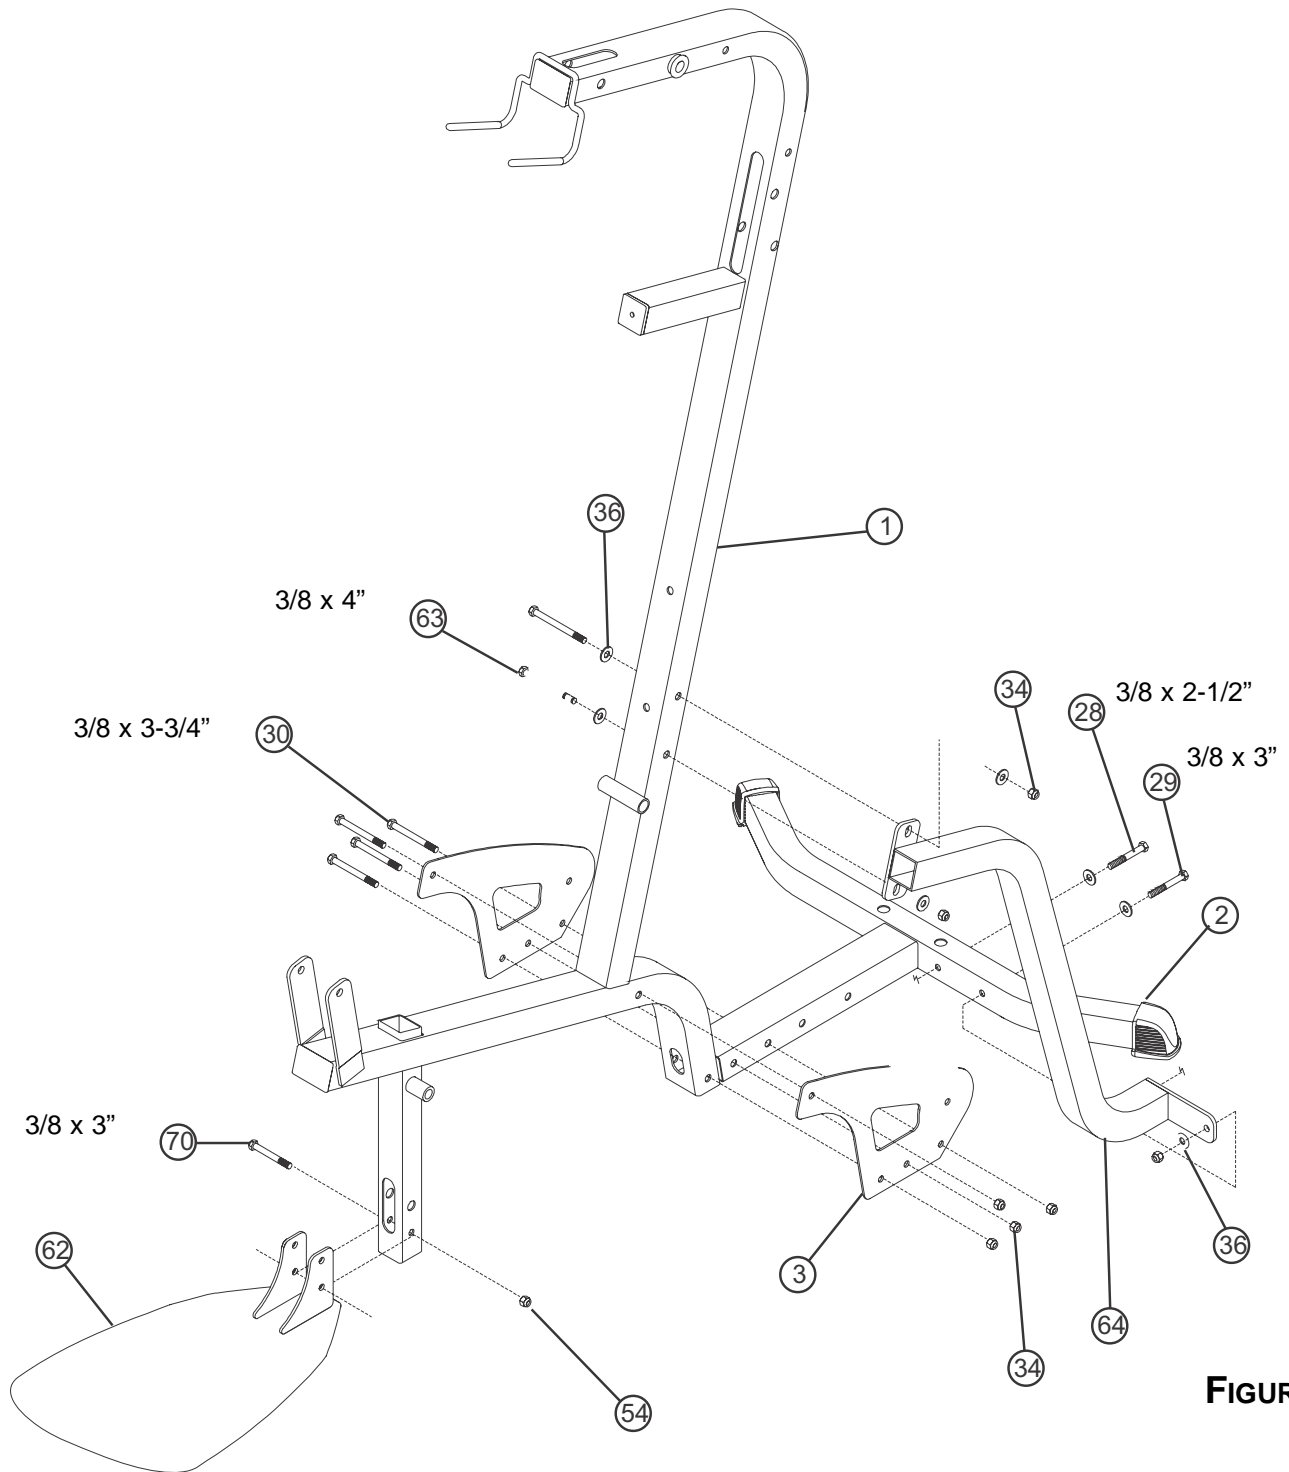

FIGURE 1
- **LOOSELY** assemble two **BASE PLATES** (3) to the **FRAME** (1) and **BASE** (2) using four 3/8 X 3-3/4" **BOLTS** (30) and four 3/8" **LOCK NUTS** (34). See **FIGURE 1**.
- **LOOSELY** assemble the **FOOTPLATE** (62) to the lower holes in the **FRAME** (1) using one 3/8 x 3" **BLACK BOLT** (70) and one 3/8" **BLACK LOCK NUT** (54).
- **LOOSELY** assemble the **TOP** of the **FRAME BRACE** (64) to the **FRAME** (1) using two 3/8 x 4" **BOLTS** (63), two 3/8" **WASHERS** (36) and two 3/8" **LOCK NUTS** (34). Assemble the **BOTTOM** of the **FRAME BRACE** (64) to the **BASE** (2) using one 3/8 x 3" **BLACK BOLT** (29), one 3/8 x 2-1/2" **BOLT** (28), three 3/8" **WASHERS** (36) and one 3/8" **LOCK NUT** (34).